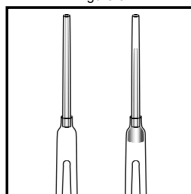

Figure 4
6. **Required for R-7904D only:** Pull the VACUette into a vertical position. A small portion of the collected sample should fall into the sleeve of the VACUette tip (fig. 4).